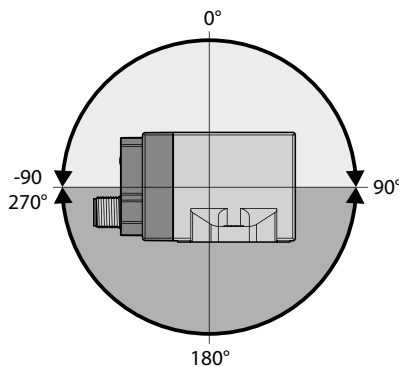

Fig. 2: Definition of the upper and lower hemisphere
Please note that with changing the zero point you also change the start and end point of the measuring range accordingly. In the "upper hemisphere" and "lower hemisphere" mode the zero-point can only be offset if the measuring range stays within the defined spreads of 0°...90°, 0°...270°, 180°...90° or rather 180°...270° (see Fig. 2, on page 8).
- 1 Upper hemisphere (see fig. 2)**
- 2 Lower hemisphere (see fig. 2)**